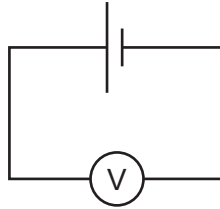

Fig. 2.1
- (a) (i) • Connect the voltmeter across the cell as shown in Fig. 2.1.